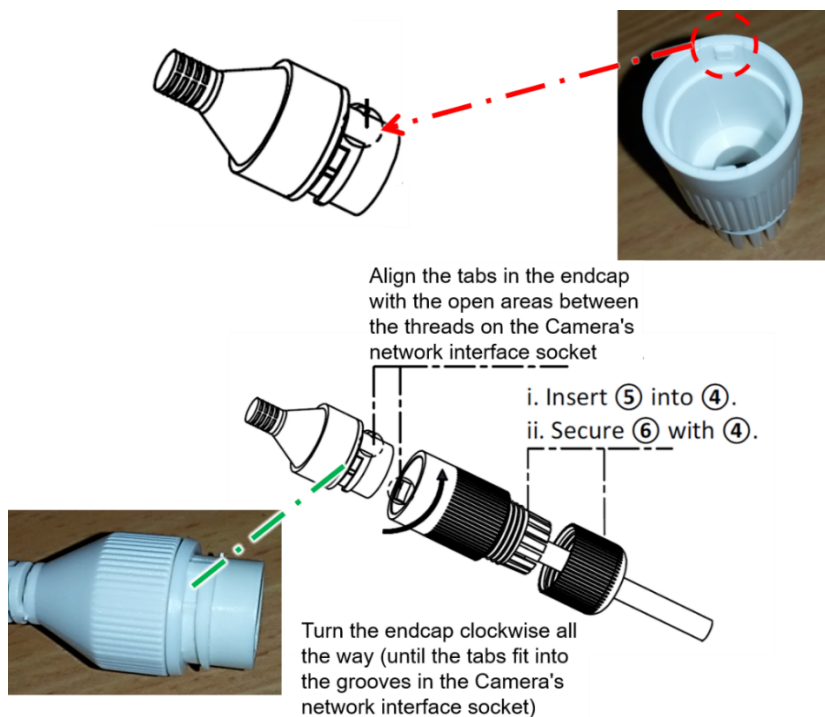

Figure 13. Securing the Waterproof Jacket
5. Align the tabs in the endcap with the open areas between the threads on the camera's network interface socket (see Figure 13).
6. Turn the endcap clockwise all the way (until the tabs fit into the grooves in the camera's network interface socket). See Figure 13.